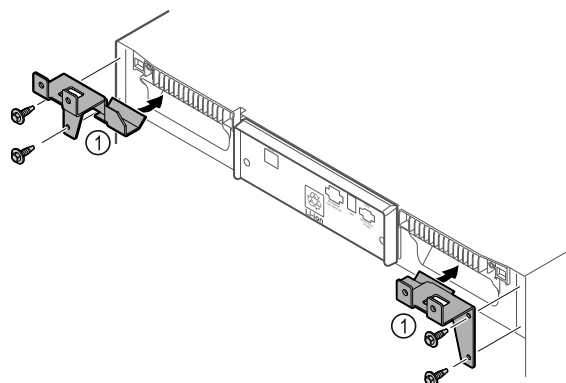

Fig. 50
- Fit the retaining parts Fig. 50 (1) to the device with self-tapping screws.